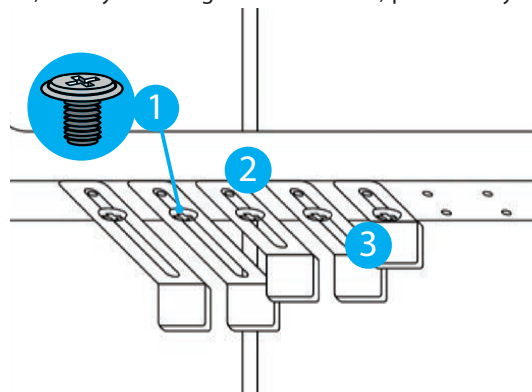

Figure 3.8.1.1. SC01-4504-10B and SC01-5504-10B
2. To adjust the height of the clamping plate, slightly unscrew the Phillips bolt with flange, located on the clamping plate, on the transverse panel, and proceed with adjusting the clamping plate's height. To fix the clamping plate back, simply screw firmly the Phillips bolt with flange – Figure 3.8.1.1.
3. In order to fix the clamp, insert the plate (its direction is irrelevant) with its longer side on the transverse panel, then adjust the height of plate. To firmly fix the plate to the panel, screw it using the hex or Phillips bolt with flange – Figure 3.8.1.1.